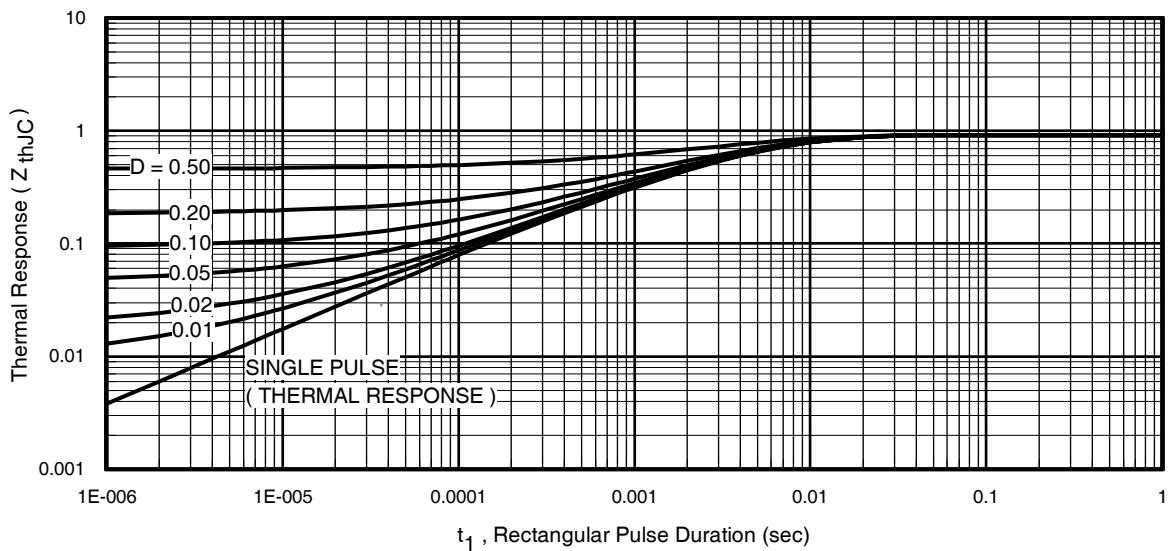
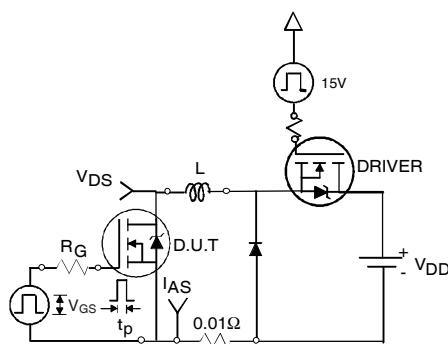

Fig 11. Maximum Effective Transient Thermal Impedance, Junction-to-Case
Fig 12a. Unclamped Inductive Test Circuit
- ① Repetitive rating; pulse width limited by max. junction temperature. (See fig. 11).
- ② Limited by $T_{J\text{max}}$, starting $T_J = 25^\circ\text{C}$, $L = 0.27\text{mH}$, $R_G = 25\Omega$, $I_{AS} = 35\text{A}$, $V_{\text{GS}} = 10\text{V}$. Part not recommended for use above this value.
- ③ $I_{SD} \leq 35\text{A}$, $di/dt \leq 380\text{A}/\mu\text{s}$, $V_{\text{DD}} \leq V_{(\text{BR})\text{DSS}}$, $T_J \leq 175^\circ\text{C}$.
- ④ Pulse width $\leq 1.0\text{ms}$; duty cycle $\leq 2\%$.
- ⑤ $C_{\text{oss eff.}}$ is a fixed capacitance that gives the same charging time as C_{oss} while V_{DS} is rising from 0 to 80% V_{DSS} .
- ⑥ Limited by $T_{J\text{max}}$, see Fig.12a, 12b, 15, 16 for typical repetitive avalanche performance.
- ⑦ This value determined from sample failure population. 100% tested to this value in production.
- ⑧ This is applied to D²Pak, when mounted on 1" square PCB (FR-4 or G-10 Material). For recommended footprint and soldering techniques refer to application note #AN-994.
3. Equation below based on circuit and waveforms shown in Figures 12a, 12b.
$Z_{thJC}(D, t_{av})$ = Transient thermal resistance, see figure 11)